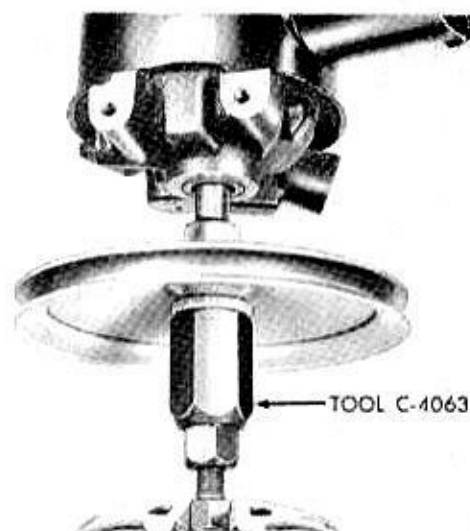

Fig. 33—Pulley Installation—6 Cylinder Engines
(8) Install drive pulley. See "Pulley Installation", (Figs. 33 and 34).
(9) With installer shaft clamped securely in vise, tighten drive nut against thrust bearing and press pulley onto shaft.
(16) Place reservoir on pump body and visually align mounting bolt hole. Tap reservoir down on pump with plastic hammer.
(17) Remove pump from vise and install mounting brackets with three mounting bolts, tighten to 18 foot-pounds.
(18) Install drive pulley. See "Pulley Installation" (Figs. 33 and 34).
shaft, securely thread installer Tool C-4063, **without** adapter, into 3/8 inch threaded hole in end of shaft. (Fig. 33).